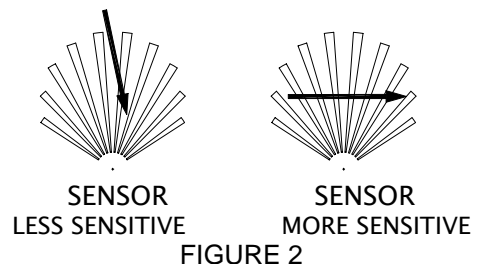

FIGURE 2
- Prior to mounting, keep in mind that the motion sensor is most sensitive to the motion, which is across the detection field and less sensitive to the motion, which moves directly towards the detector (FIGURE 2).